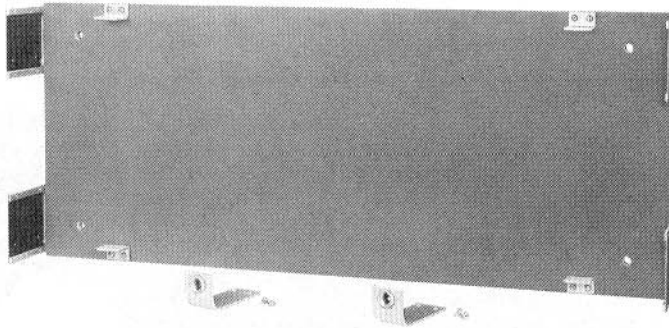

Fig. 43—Terminal Wall Box per ED-69391-50, Group 1
9.02 The terminal wall box per ED-69391-50, Group 1 (Fig. 43 and 44) consists of a particle